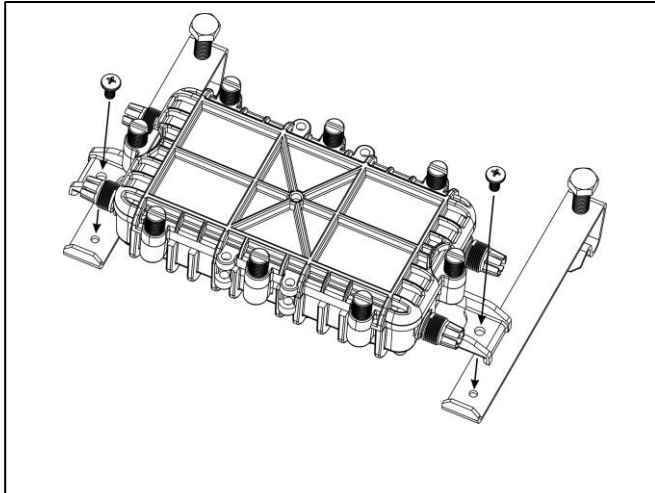

Figure 11. Strand mount kit installation
- ① Attach the brackets to the enclosure as shown in Figure 11.